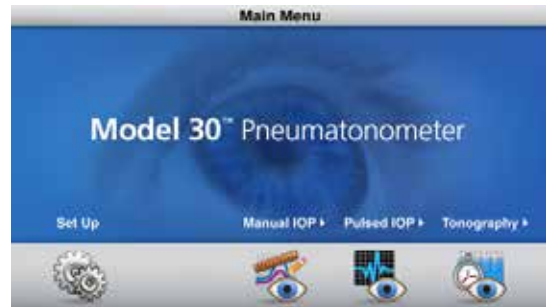

Figure 2-1, Main Menu Screen
1. Turn the instrument ON by pressing down the “I” on the front panel ON /OFF switch. At start-up, the Model 30 Pneumatonometer LCD readout will display the initial screen for several seconds as the instrument conducts a self-check test. After initialization, the unit will display the Main Menu Screen. Refer to Figure 2-1.